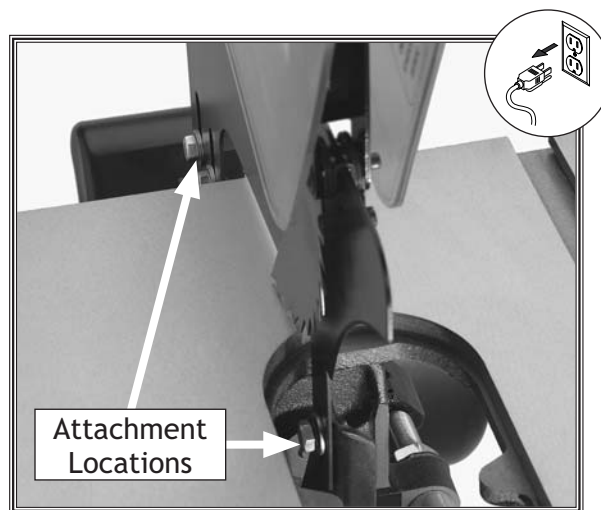

Figure 36. Blade guard/splitter attachment locations.
5. Secure the blade guard/splitter internal attachment, then adjust the bracket assembly to engage the two rear attachment points as shown in **Figure 36**.